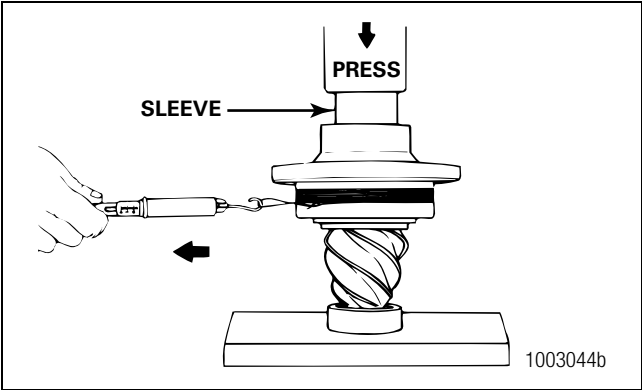

Figure 5.13
- 2. Install a sleeve of the correct size against the inner race of the outer bearing. Figure 5.13.
- 6. Pull the cord on a horizontal line. As the bearing cage rotates, read the value indicated on the scale. Record the reading. Figure 5.13.